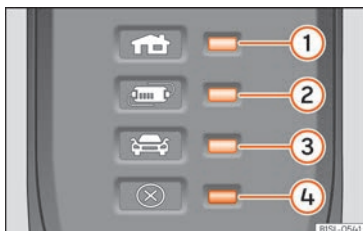

Fig. 216 On the charging cable for power sockets: Indicator lamps on the protection device.
» **Fig. 216:**
The electronic protection device » **Fig. 216** ensures that the charging connector does not receive current until it is plugged in to the vehicle's charging connector.
One or more indicator lamps » **Fig. 216** ①, ② or ③ light up green.
Display » Fig. 216	Meaning
If the red warning light ④ flashes or turns on without one of the indicator lamps » Fig. 216 ①, ② or ③ also turning on continuously on the status indicator, there is a fault.